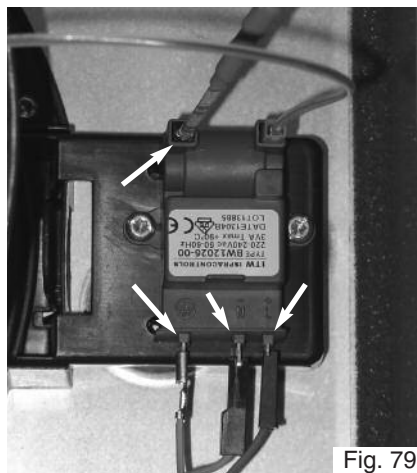

Fig. 79
3. Disconnect the ignition electrode, live, neutral and earth cables from the ignitor. (Fig. 79);